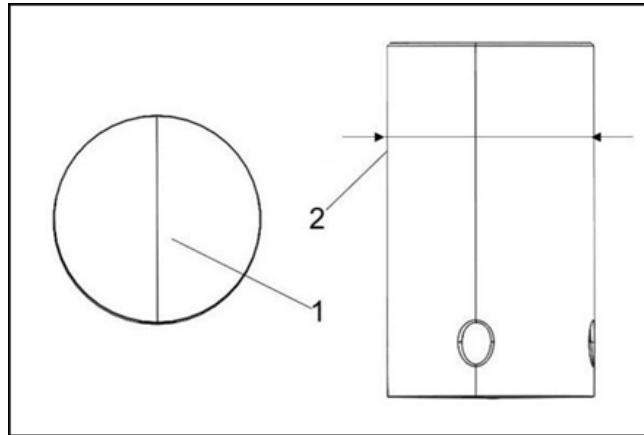

Figure 125.
1. Inspect the tappet contact surfaces for abnormal wear (Figure 125, item 1).
2. Measure the outside diameter of the tappet stem (Figure 125, item 2). See the mechanical specifications chart for the service limit.